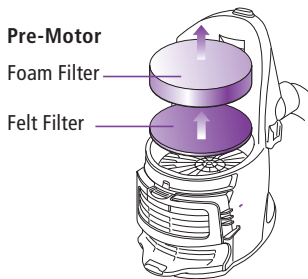

Fig. 11
- 2 Remove the pre-motor filters out from the top of the motor base. (fig. 11)